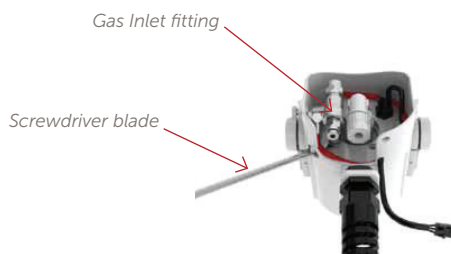

Figure 40: Using a screwdriver to remove the gas inlet fitting.
2. Remove the gas inlet fitting from the ErgoNOW connector. Do this by inserting a flat-bladed screwdriver through the access hole in the ErgoNOW connector as shown in Figure 40. Gently pry the quick connect fitting upward to release it.